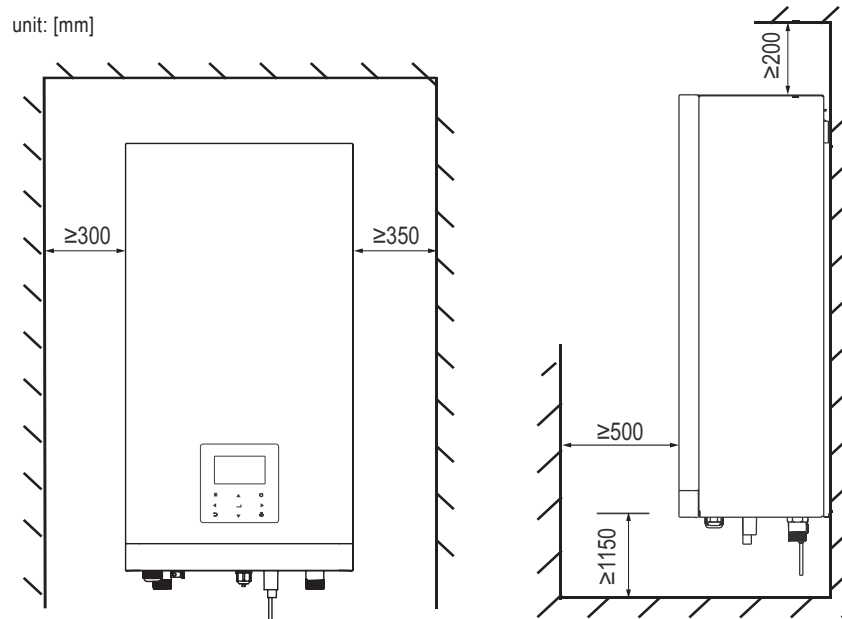

Figure 4-4
- The space around the unit is adequate for serving, see figure 4-4.